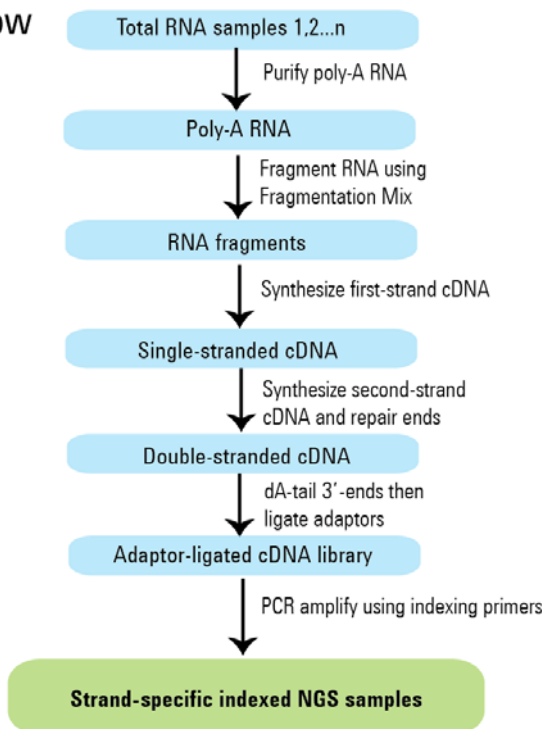

Figure 2 Overall sequencing sample preparation workflow
Figure 2 summarizes the SureSelect workflow for RNA samples to be sequenced using the Illumina paired-read sequencing platform. For each sample to be sequenced, an individual cDNA library is prepared. The samples are then tagged by PCR with an index sequence. Depending on the capacity of the sequencing platform, up to 48 samples can be pooled and sequenced in a single lane using the multiplex index tags that are provided with the SureSelect Strand-Specific RNA Library Prep kit.
- For sample indexing by PCR (see Figure 2), you will need to prepare a separate plate containing the indexing primers. Assign the wells to be indexed with their respective indexing primers during experimental design.